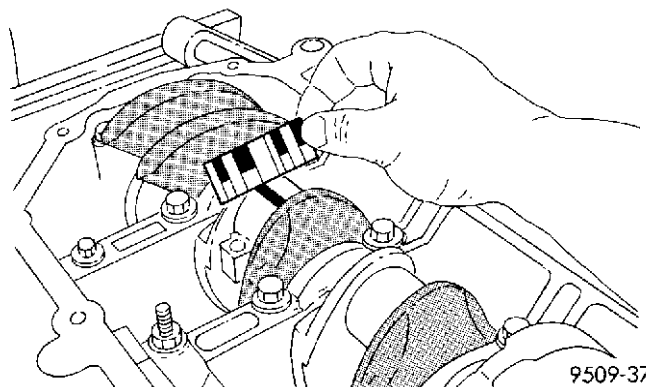

Fig. 8 Checking Connecting Rod Bearing Clearance
(1) Follow the procedure specified in the Standard Service Procedures Section for Measuring Main Bearing Clearance and Connecting Rod Bearing Clearance (Fig. 8). Refer to specifications.